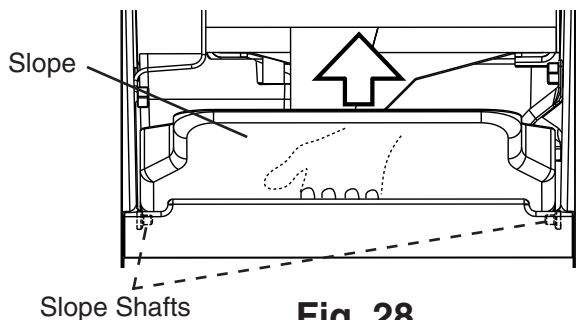

Fig. 28
- 2) Remove the slope from the storage bin by carefully bending it in the center and releasing it from the 2 slope shafts. See Fig. 28.